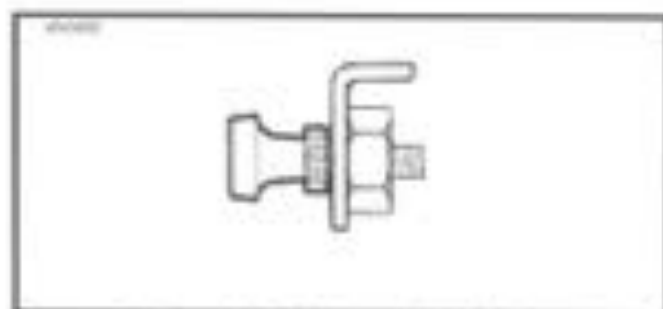

Figure 4-2. Enrichener Knob Fully In
3. See Figure 4-2. Then push enrichener knob fully in. If engine will not idle at specified rpm, pull out enrichener knob enough to allow correct idle speed. Ride another two minutes or two miles (3 km); then push enrichener knob fully in.
Open throttle 1/8-1/4 of full travel. Turn on ignition switch and operate electric starter. See Figure 4-2. **DO NOT USE ENRICHENER**, unless engine will not idle at specified rpm. If engine will not idle at specified rpm, pull out enrichener knob enough to allow correct idle speed. Ride two minutes or two miles (3 km); then push enrichener knob fully in.